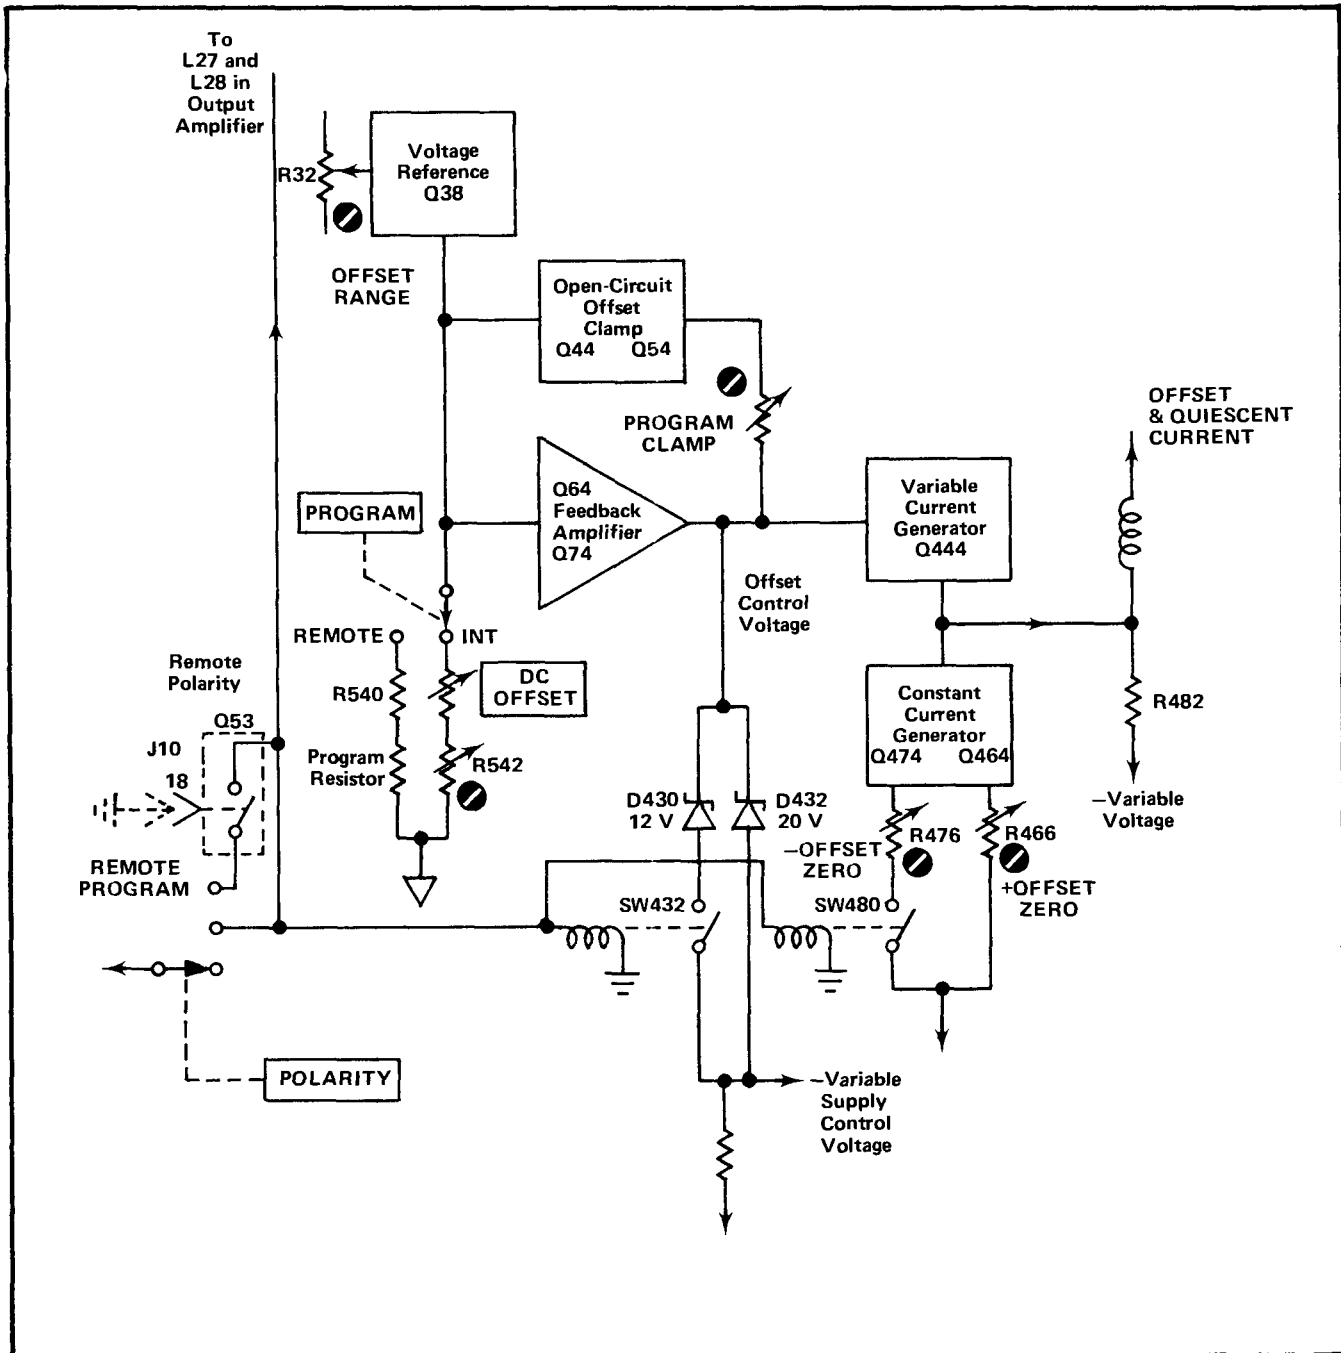

Fig. 4-11. Block diagram of the offset current generator.
**Offset Current Generator.** The offset current generator (see the Attenuator and Offset Current Gen circuit diagram) produces DC current varying from  $-75\text{ mA}$  to  $+330\text{ mA}$ , part of which provides quiescent operating levels for the output amplifier and part of which provides variability of the DC offset level of the output pulse. This circuit consists of variable voltage reference circuit Q38 (see Fig. 4-11), unity gain feedback amplifier Q64 and Q74, open circuit offset clamp Q44 and Q54, variable current generator Q444, and constant current generator Q464 and Q474.